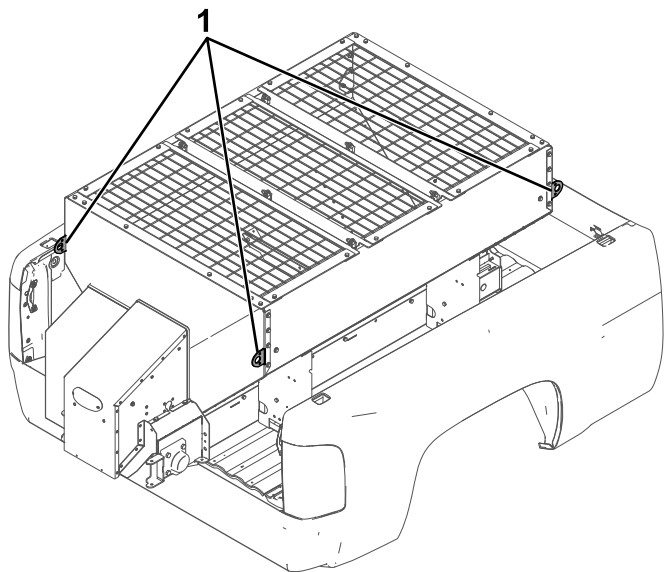

Figure 4
2. Using the lift bars (Figure 4), lift the spreader onto the truck bed and set it on the centerline.